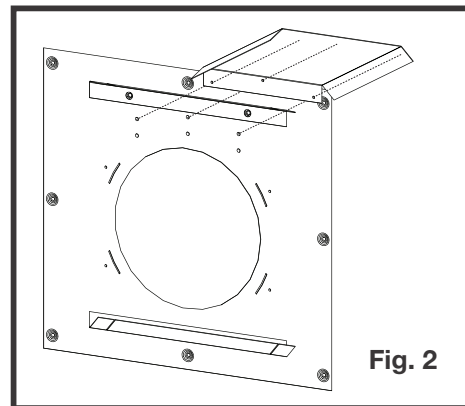

Fig. 2
2. Install one vent shield onto the standoff on one side of the firestop spacer (**Fig. 2**).
2. Adjust vent shield to a minimum of 15" (Fig. 2).